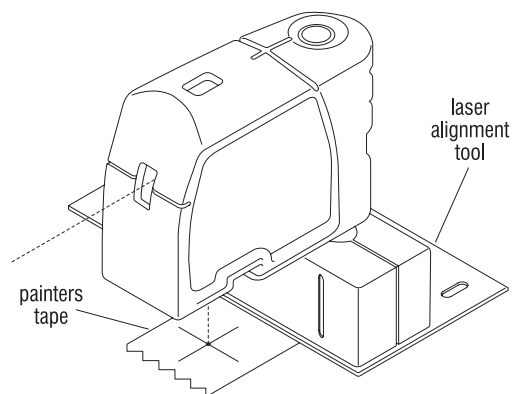

Figure 1
1. Using a laser alignment tool, align the lasers with the ceiling rail (Figures 1 & 2).